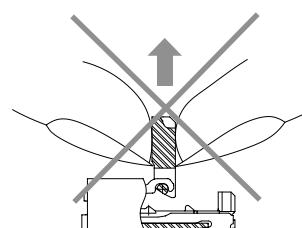

Fig. 3
③ The actuator will rotate 125°C. Do not apply force to rotate further.
④ When opening or closing the actuator, do so at the center section.
⑤ Do not grasp or and lift the actuator (Fig. 3) nor insert the nail from the back of it (Fig. 4).